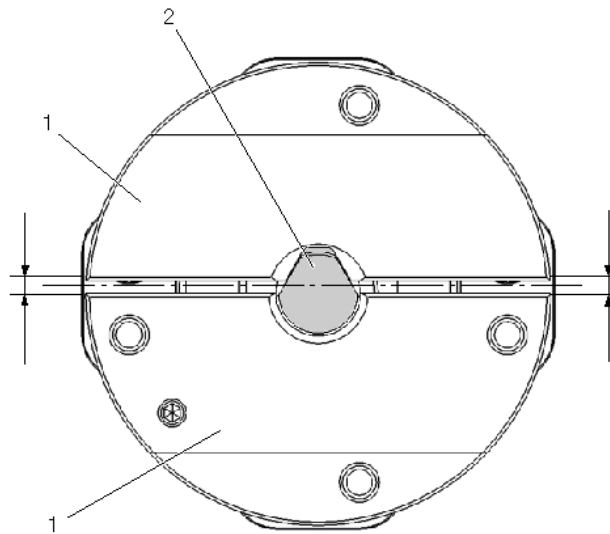

Figure 7-6 Pump side
- The halves (1, Figure 7-6) of the coupling disks are turned such that the diagonal surfaces of the pump shaft (2, Figure 7-6) and those on the coupling disk rest against one another.